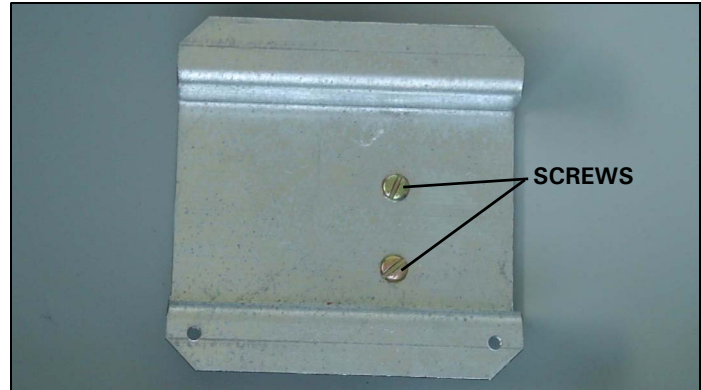

Figure 63. TVSS Mounting Bracket Secured to the Back of the Enclosure.
Step 2: Align the TVSS Mounting bracket with the existing holes in the back of the enclosure, located above the base plate. Secure the mounting bracket to the enclosure using the hardware provided and a flat blade screwdriver (see Figure 63).